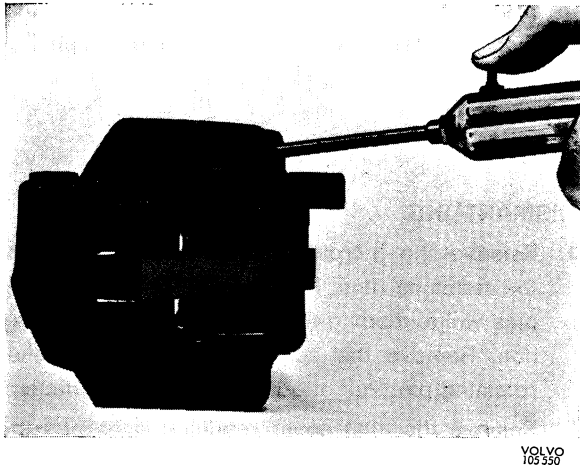

Fig. 5-22. Removing pistons
2. Remove the retaining rings for the rubber dust covers. Place a piece of wood, similar in shape to that shown in Fig. 5-3, between the pistons and press them out against the wood with the help of compressed air, see Fig. 5-22. The pistons can then be easily removed. Lever off the rubber dust covers.